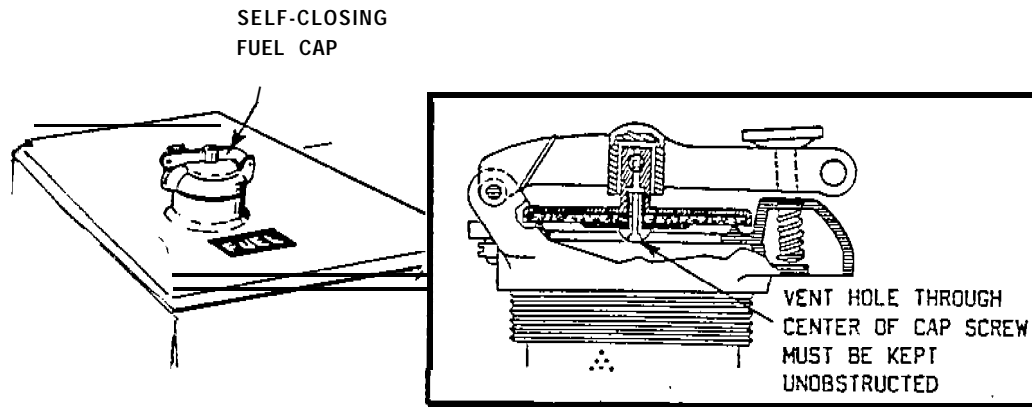

FIGURE 1
(Weekly) 2. () The fuel filler cap (1)* is vented and the vent is not plugged. (See FIGURE 1).